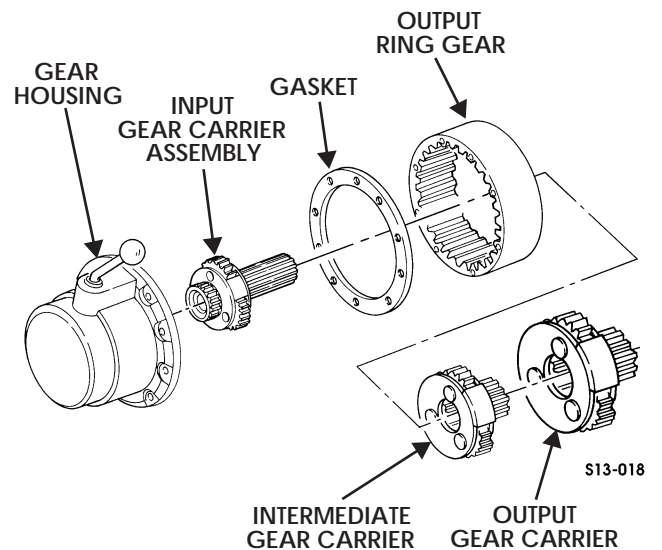

**Figure 13-15: Intermediate Ring Gear and Gear Housing**
1. Position 85 to 87 steel balls in groove of intermediate ring gear and install intermediate ring gear in gear housing (Figure 13-15).